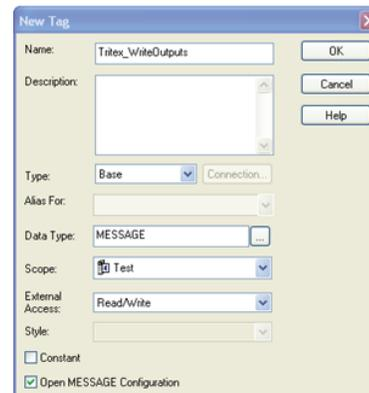

Figure 32 – Set – Message Tag
- In new Tag menu, assign name to tag, Check Open MESSAGE Configuration box, then click OK. See figure 32.
8. From Tag Menu select icon next to Data Type and change INT Dim 0 to “101”, then click OK, returning to New Tag Menu. Click OK to Defined New Source Element Tag “Tritex\_OutputData” See Figure 32 and 33.